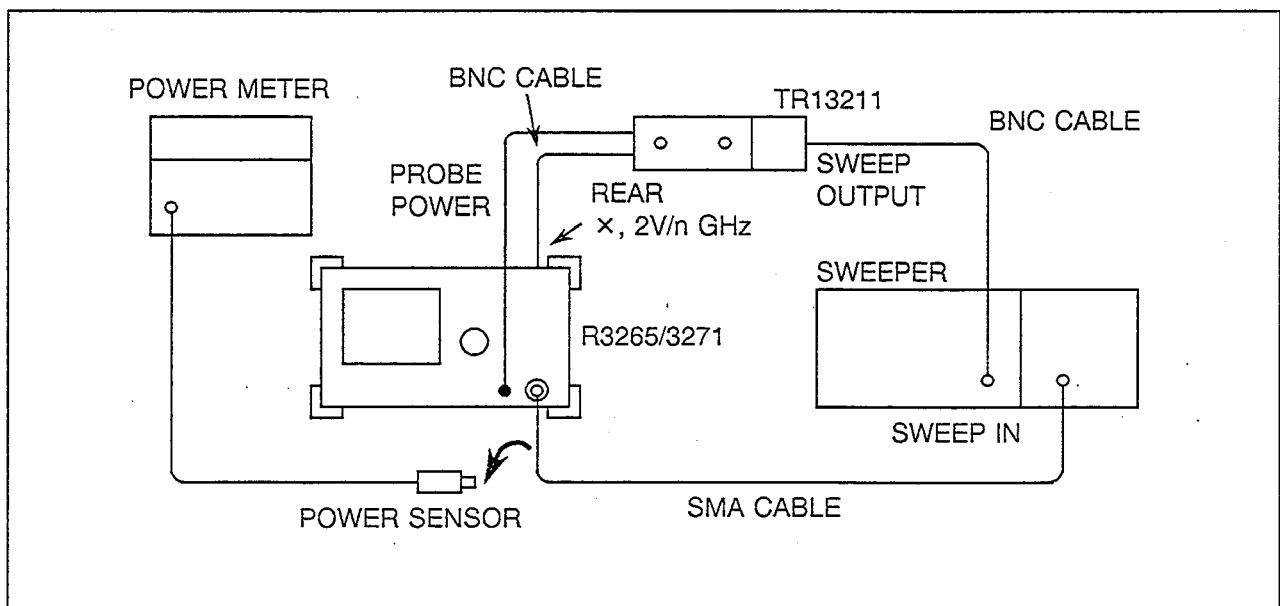

Figure 5-12 Frequency Response Adjustment Setup
(1) Zero and calibrate the power meter. Rotate and set the CAL FACTOR control to the 2GHz calibration factor of the power sensor.
(2) Connect the equipment as illustrated in Figure 5-12.
(3) Press the **INSTR PRESET** key on the HP8350, and set the control as follows: